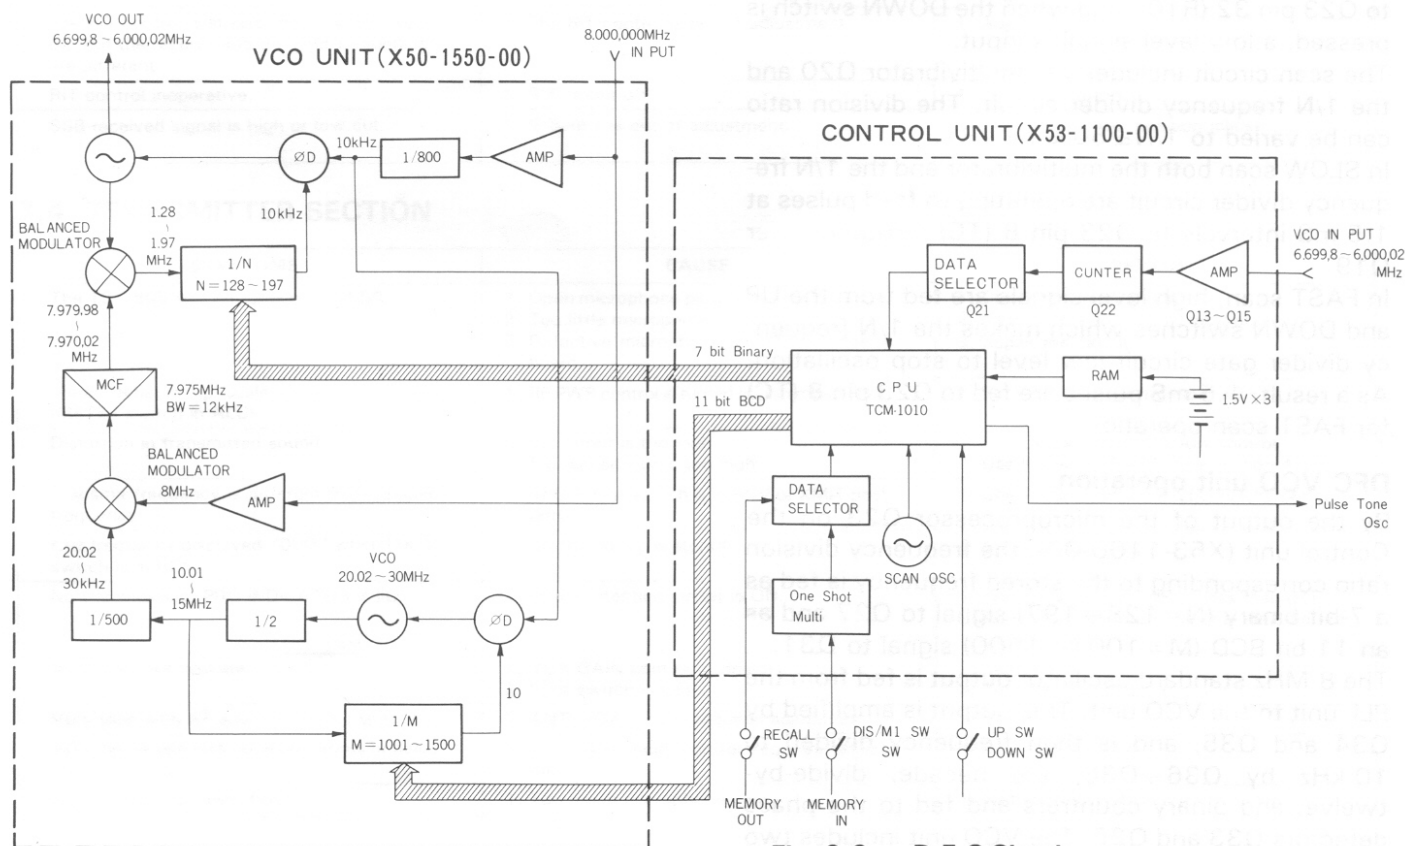

Fig. 6-6 D.F.C Circuit
6.11 DFC OPERATION (See Fig. 6-6) (TS-180S with DFC only)